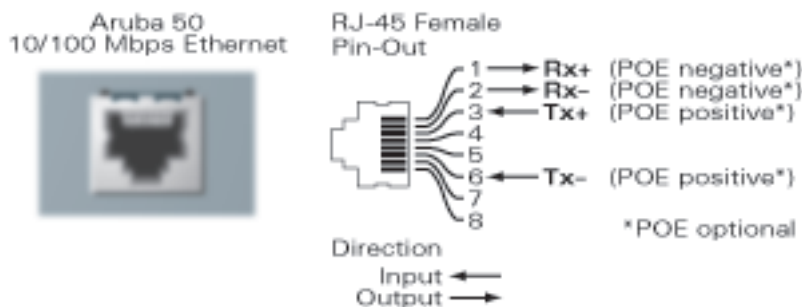

Figure B-2 Aruba 50 FE Port
The 10/100 Mbps Ethernet (FE) port is located on the back of the Aruba 50 and has an RJ-45 female connector. Port pin-outs are shown in Figure B-2: